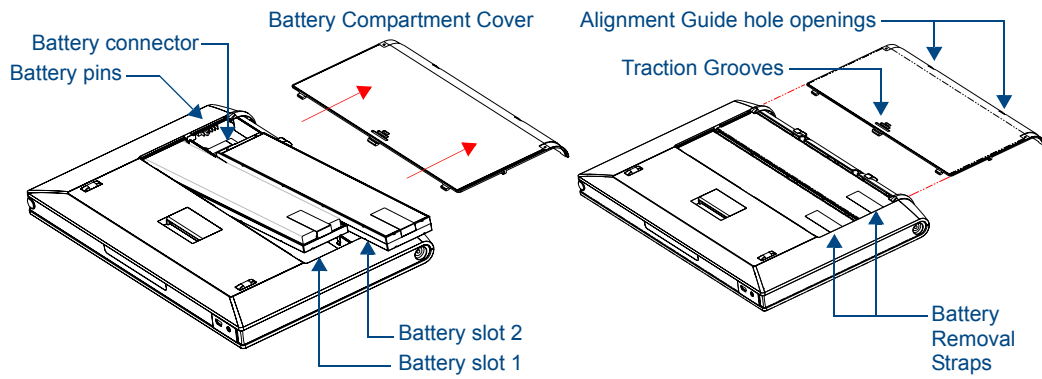

FIG. 4 Installing MVP-BP batteries into the MVP battery slots
3. Insert the MVP-BP(s) so that the connector makes contact with the battery pins at the end of the battery slot as shown in FIG. 4.